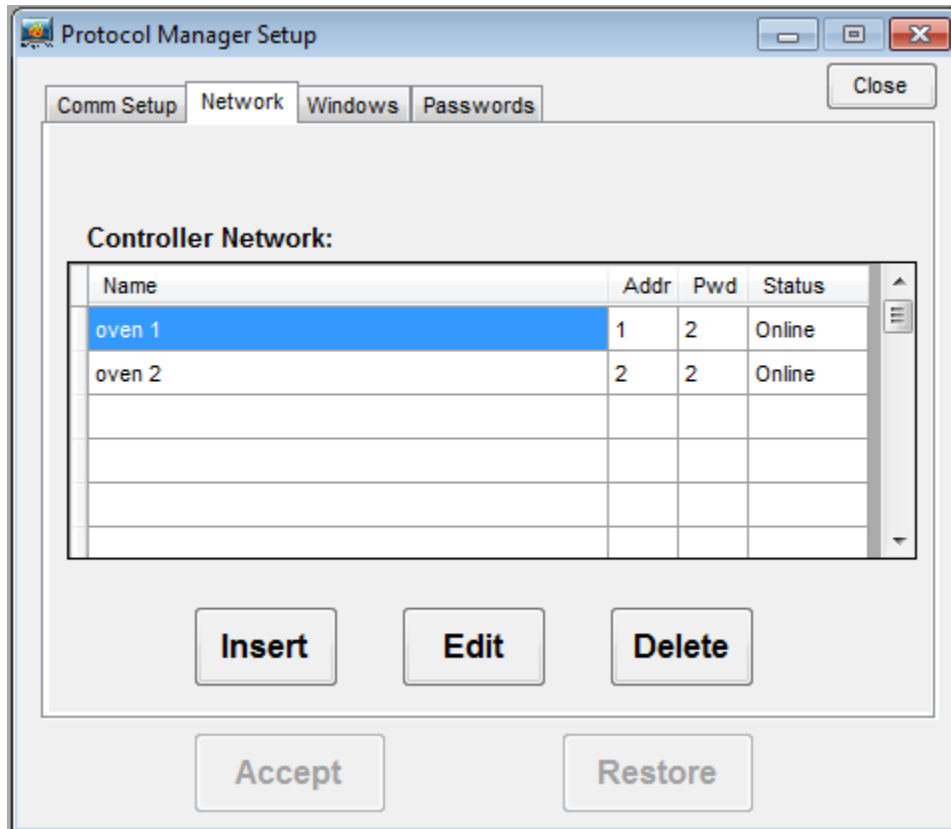

Figure 11: Protocol Manager Setup - Network Tab
1. The second tab from the left on the **Software Setup** window is the **Network** tab. Select this tab to add controllers to the system. See Figure 11. Note that if all the buttons are not active, click on the space below the **Name** to activate the insert button.